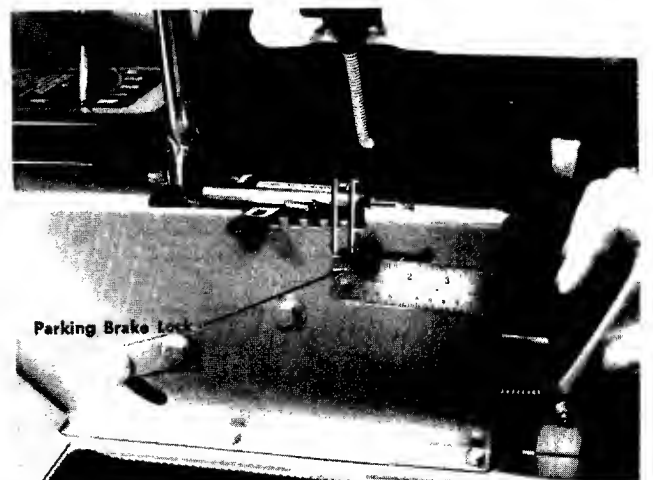

FIGURE 25. PARKING BRAKE LOCK
2. If adjustment is correct, parking brake lock will have moved approximately $\frac{1}{4}$ ". See figure 25.